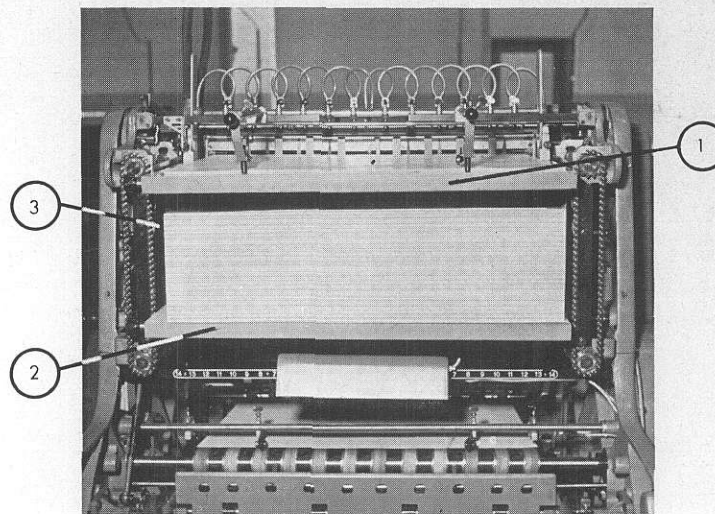

Fig. 4
**The pre-loading feeder.** - This permits the preparation of a new pile while the press is in operation reducing down time, when the first stock is exhausted, to a few seconds. Two boards are provided for this purpose: an upper board (No. 1, fig. 4) with electromagnetic automatic lift (No. 3, fig. 4) holding the sheets ready for printing, and a lower board (No. 2, fig. 4) resting on special supports on which the reload pile is prepared.